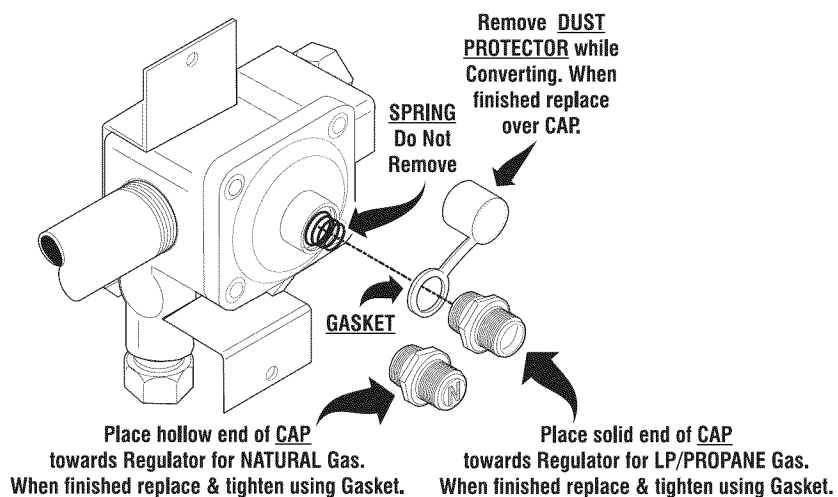

Fig. 3
- f. Follow the remaining instructions provided in Fig. 3.